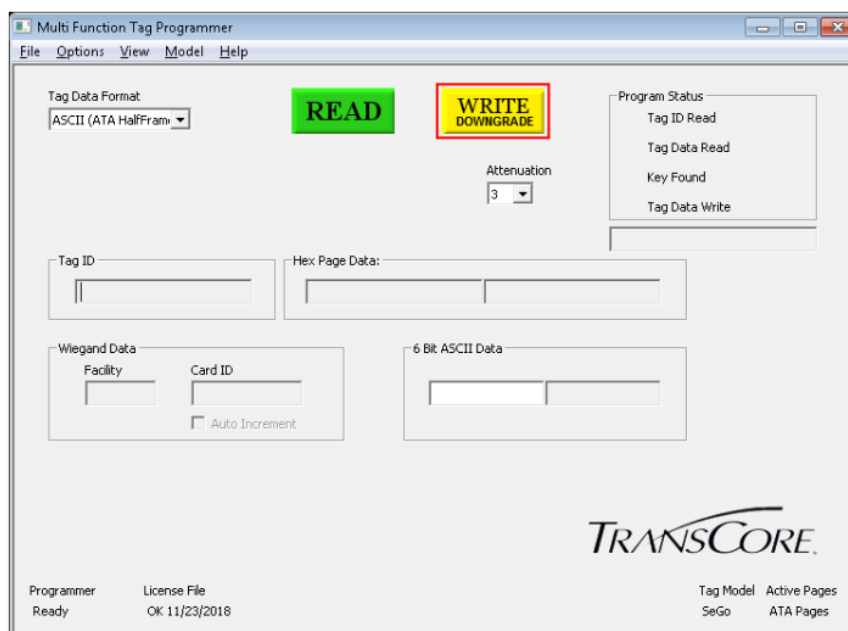

Figure 21 Write Buttons when Downgrade Tags is Enabled
- When **Downgrade Tags** is enabled, the **Write** buttons are changed as shown in Figure 21.